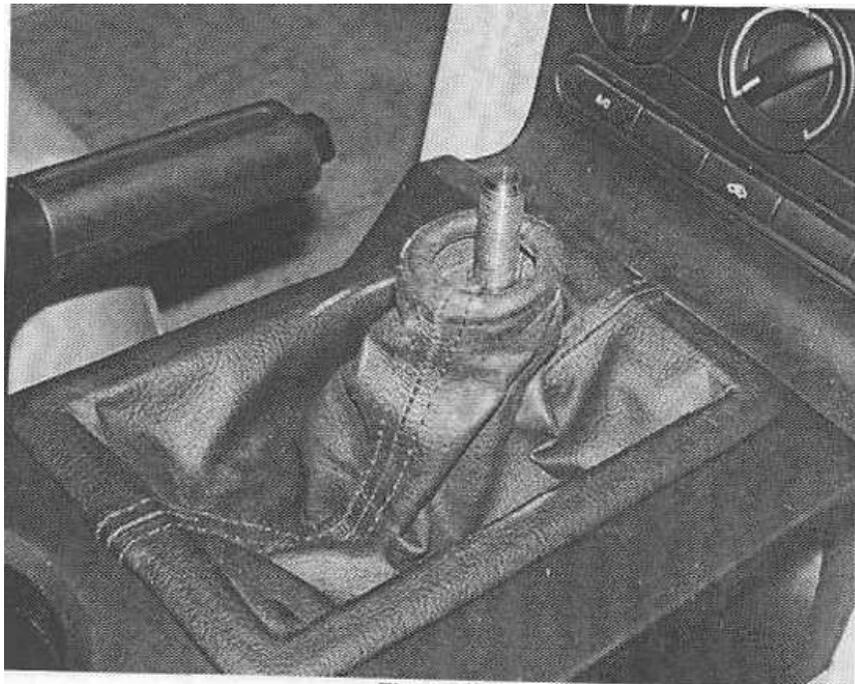

Figure 1
3. Remove shifter knob from stick by turning counter-clockwise (Refer to Figure 1).